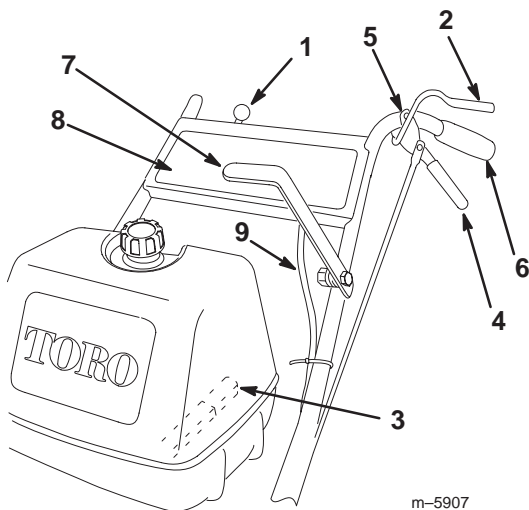

Figure 15
Become familiar with all the controls (Fig. 15) before you start the engine and operate the machine.
1. Move the throttle lever to the **Slow** position (Fig. 15).
2. To stop the engine, pull the throttle all the way back to the **Stop** position (Fig. 15).
1. Squeeze the operator presence control (OPC) levers against the handles (Fig. 15).
2. Push the blade control (PTO) lever firmly forward until it latches over the center (Fig. 15).
Pull the blade control (PTO) lever **fully** rearward (Fig. 15).